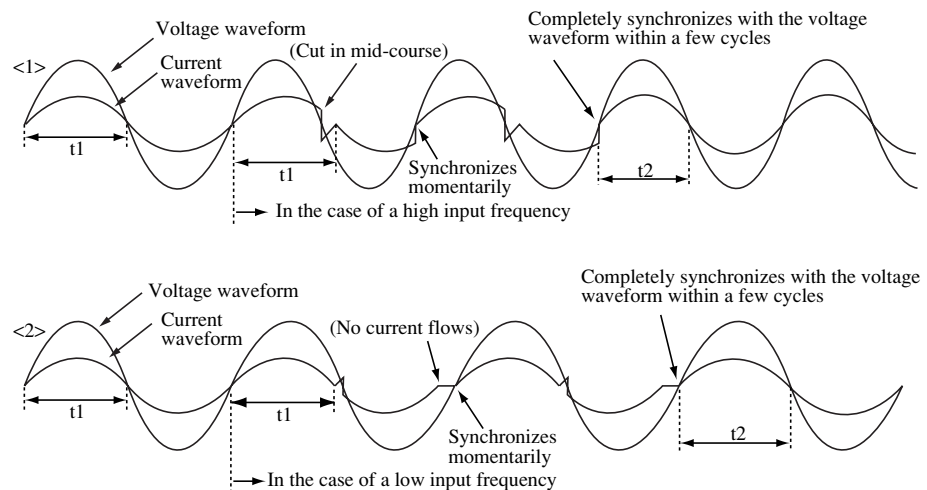

Fig. 2-3
- If the frequency of the input voltage changes suddenly, the waveform of the power is distorted for a few cycles. (See Fig. 2-3. The smaller the change in frequency, the less distortion is generated.)
- Input of DC voltage or voltage out of the rated frequency range results in improper operation. (If the input voltage is over the rated frequency range, the instrument will maintain the waveform until complete synchronization <1> in Fig. 2-3. If the input voltage is below the rated frequency range, it will maintain the waveform until complete synchronization <2> in Fig. 2-3. In the case of DC voltage, no current flows.)